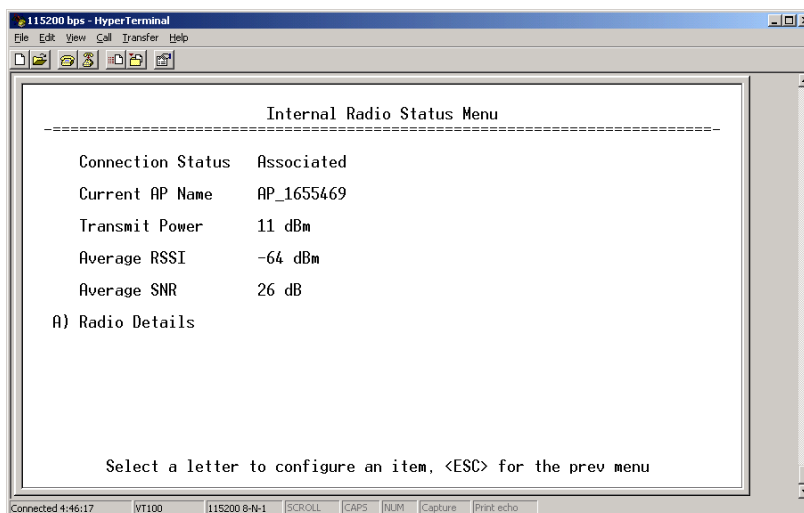

Figure 3-96. Internal Radio Status (Remote Only)
- **Internal Radio Status (Remote Only)**—Shows connection status, RF parameters, and total FEC count for the unit. (See Figure 3-96 on Page 122 for details.)